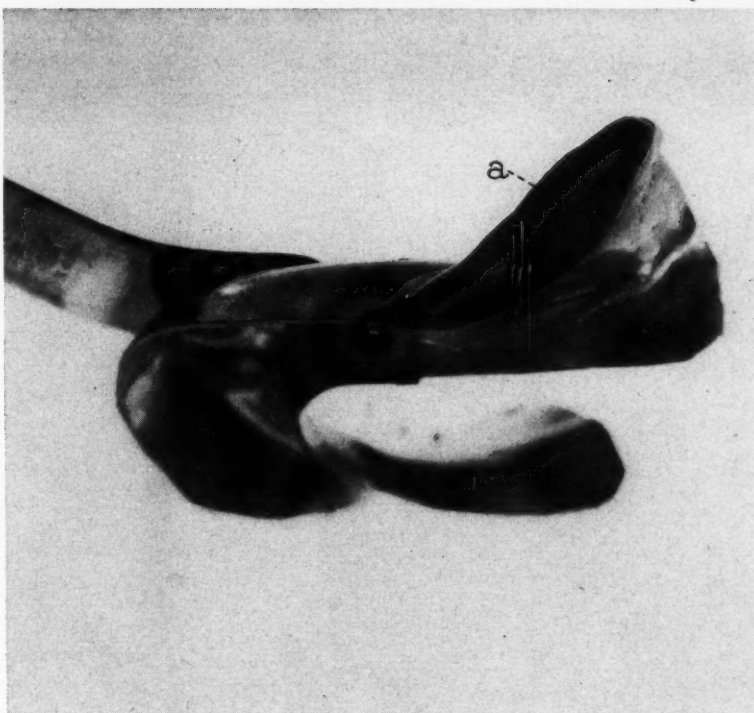

Fig. 2—a, Disto-buccal portion of metal tray outlined with black modeling compound to show curved area (view of tissue side of tray).
proper at an angle of 40 degrees, which is approximately the correct angle for the average jaw. The vertex of this angle should be in the second molar area (Figs. 2 and 3). Three accomplishments are effected with this treatment of the tray heel: (1) The entire retromolar pad and the resilient tissue beyond it will be reproduced in compound; (2) compound can be carried to and placed against the ramus; (3) the compound will displace the masseter and buccinator muscles in the disto-buccal area of the denture, thereby revealing a clear imprint of the external oblique ridge.